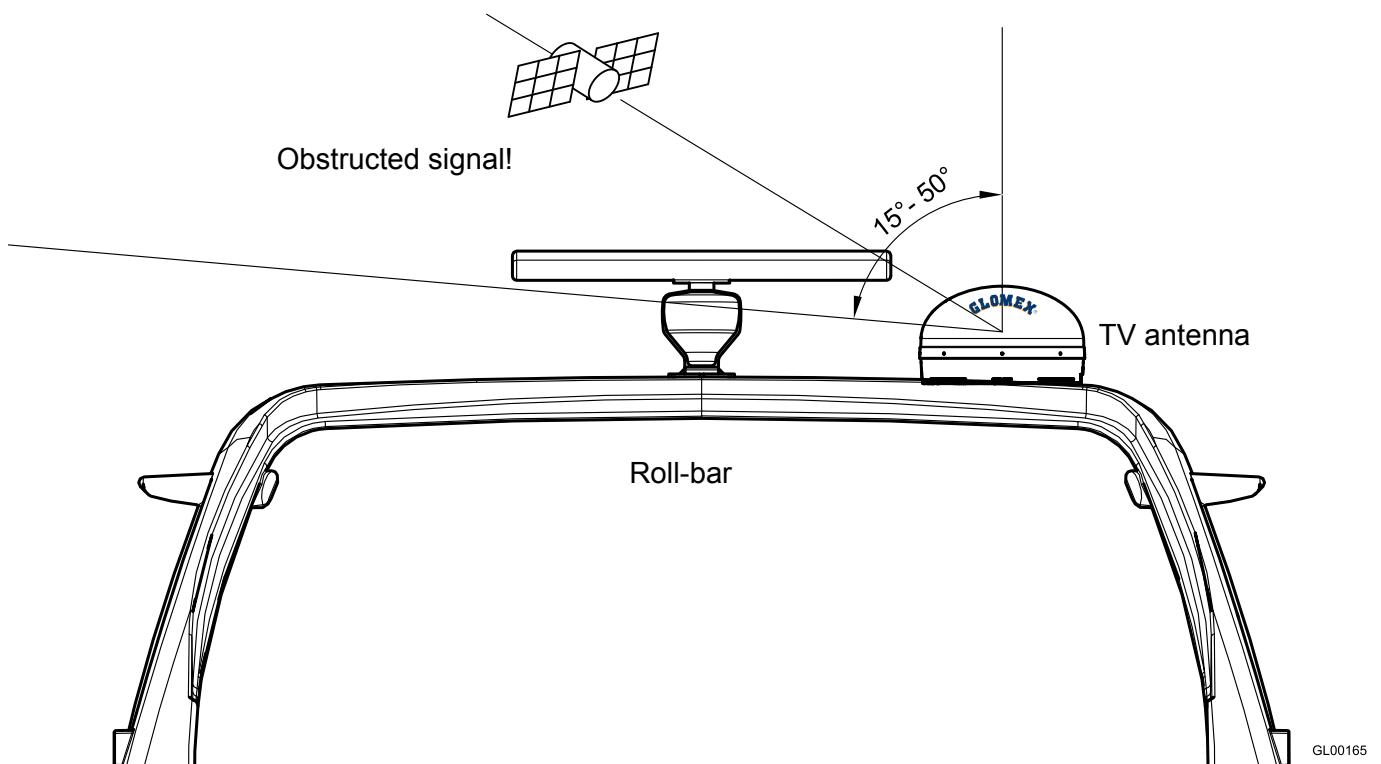

Fig. 3
- the antenna requires a lifting angle between 15° and 50° to receive satellite signals (Fig. 3).